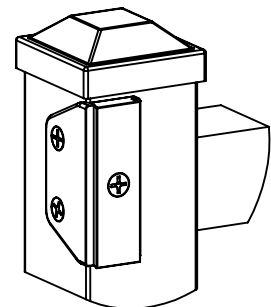

FIGURE 2
**STEP 2:** Install Upper Bracket using (3) flat head screws, as near to the top of the fence post as possible (Figure 2).